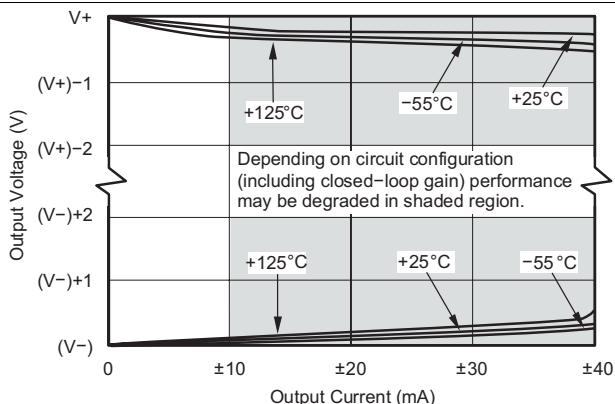

Figure 17. Output Voltage Swing vs Output Current
(4) Output voltage swings are measured between the output and power supply rails.
(5) See Figure 17.
A class AB output stage with common-source transistors achieves rail-to-rail output. For light resistive loads ($>10\text{ k}\Omega$), the output voltage swing is typically ten millivolts from the supply rails. With heavier resistive loads ($600\text{ }\Omega$ to $10\text{ k}\Omega$), the output can swing to within a few tens of millivolts from the supply rails and maintain high open-loop gain. See Figure 17 and Figure 18 for more information.